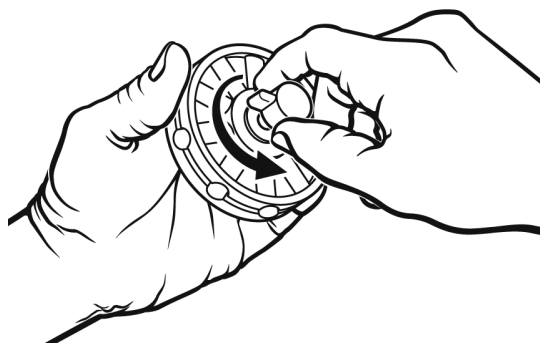

Figure 3
- a. Loosen the knob on the hub a little bit (see Figure 3). Do not loosen the knob too much or the hub will come apart.